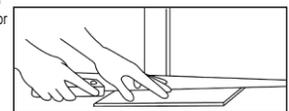

Figure 4
- Undercut door casings and jambs. Remove any existing base, shoe molding or doorway thresholds. These items can be replaced after installation. All door casings and jambs should be undercut to avoid difficult scribe cuts (figure 4).